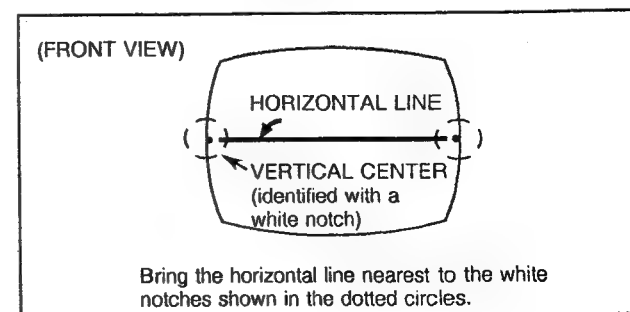

Fig. B-4
6. Check the vertical center position by displaying a horizontal line. ( Select the CUT-OFF SERVICE SWITCH from N to S and a HORIZONTAL LINE will appear. ) Unless correct, bring it to the nearest center by rotating the two tabs, kept at an angle, together in either direction. ( Fig. B-4 )